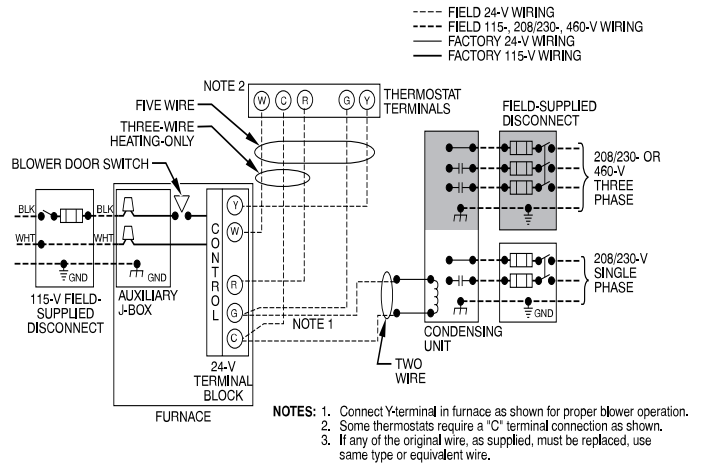

Fig. 23 – Heating and Cooling Application Wiring Diagram with 1-Stage Thermostat
See Fig. 23 for field wiring diagram showing typical field 115-V wiring. Check all factory and field electrical connections for tightness.
12. Complete electrical box wiring and installation. Connect line voltage leads as shown in Fig. 23. Use best practices (NEC in U.S. for wire bushings, strain relief, etc.)
5. Connect line voltage leads as shown in Fig. 23.
Make field 24-V connections at the 24-V terminal strip, see Fig. 23. Connect terminal Y as shown in Fig. 36 for proper cooling operation. Use only AWG No. 18, color-coded, copper thermostat wire.